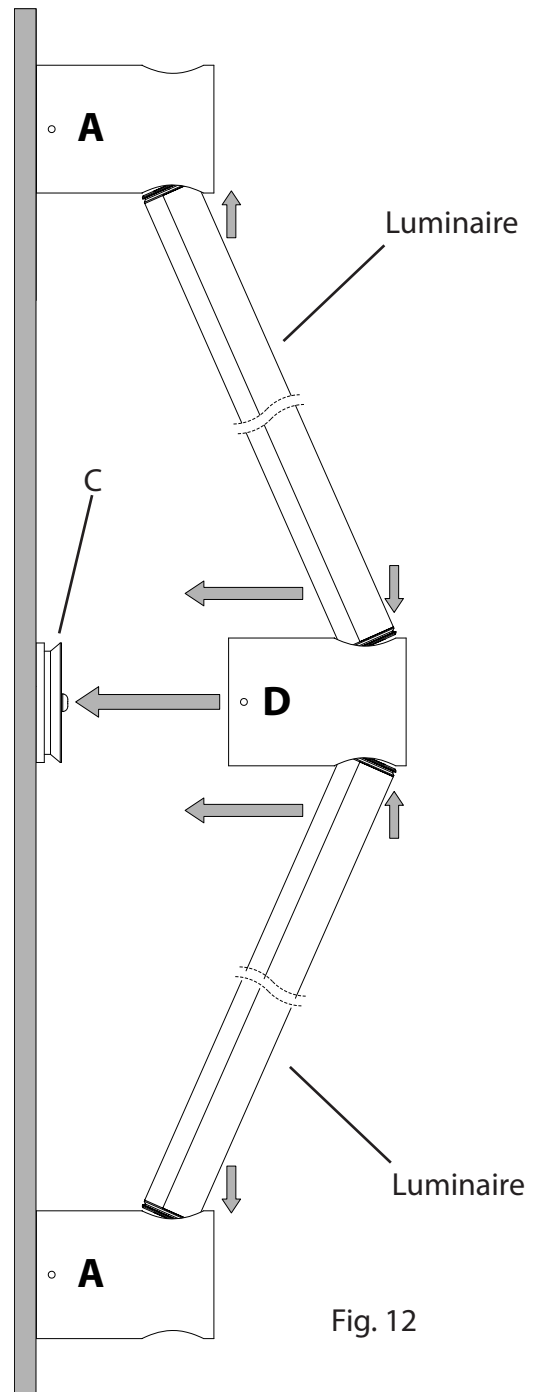

Fig. 12
**Note:** For some configurations, two Luminaires may need to be installed simultaneously to a shared **Connector D** (Fig. 12). Follow steps 1-4 above with **Connector D** in place of **Connector B**.